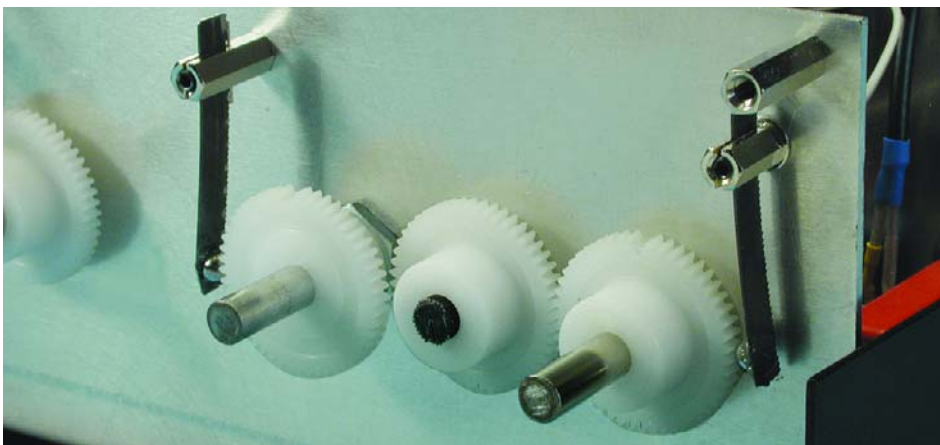

Figure 3. The balance potentiometers are coupled by a pair of gearwheels. The centre-to-centre spacing is 25 mm.
**Figure 3**). Drill and tap the gearwheels for M3 setscrews. As the material is quite soft, it's a good idea to file flats on the shafts of the potentiometers. This will allow the gearwheels to be securely anchored with only moderate tightening of the setscrews.
used for the balance control. If you arrange a leaf spring such that it presses a steel ball (from bicycle bearing, for example) against the teeth of the gearwheel, you obtain click stops. A tangible midrange position can be produced by removing one tooth at the midrange position. All of this is clearly shown on the photo in **Figure 3**.